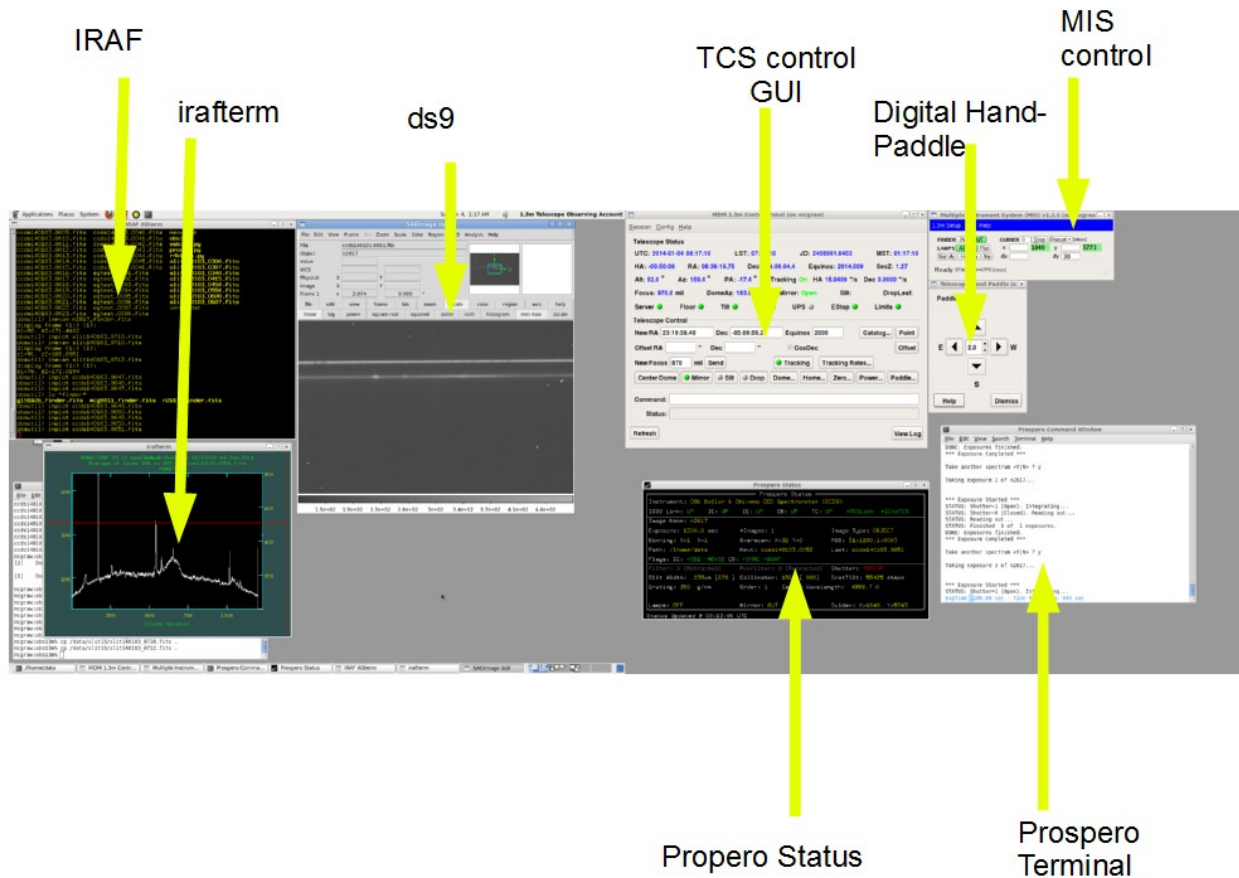

Figure 3: Mcgraw workstation screen.
2. Make sure that the Instrument Computer (IC) (in the computer room) is functioning and that the CCDS is working. See the CCDS manual (“CCDS and TIFKAM Data Taking Startup Procedure inside the front cover of the 1.3m Observer's Handbook binder) for info on how to start the data-taking system if needed.
4. Turn on monitor for guide camera (see Fig. 3). Everything else should already be turned on and